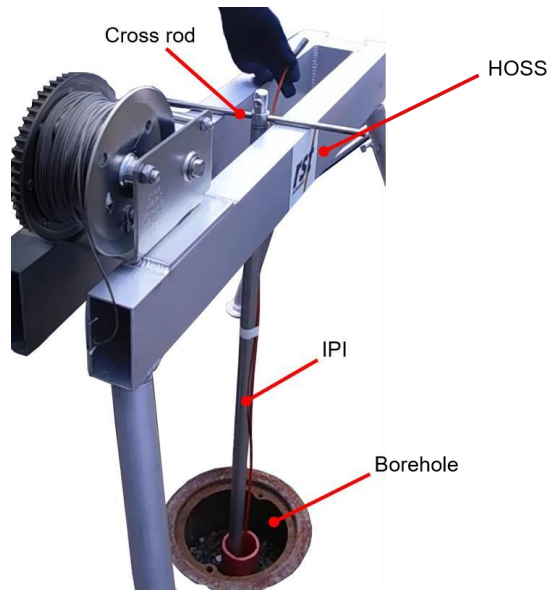

Figure 13: Using the Cross Rod Method as an Alternative to Winch
10. Use the winch on the HOSS or another powered or manual winch to secure the bay assembly from falling downhole. If the installer does not have access to a winch that can slowly and securely lower and raise the IPI string, the cross rod method may be used with any two flat surfaces, such as foldable tables or sawhorses (see Figure 13).
A stainless-steel wire rope interval (see Figure 13) may be used in place of a bay rod for cases where specific zones are of interest rather than the entire profile of the borehole.
To prevent potential contamination, cover the IPI connectors with the provided connector caps each time the IPI is disassembled (Figure 13). Ensure that protective caps are always on the connectors when the connectors are not in use.